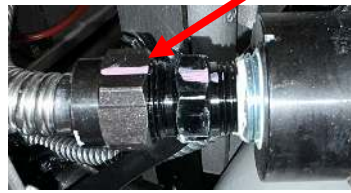

Figure 9
12. Attached the flexible hose removed in step 7 to the output of the pre-filter (see Figure 9).